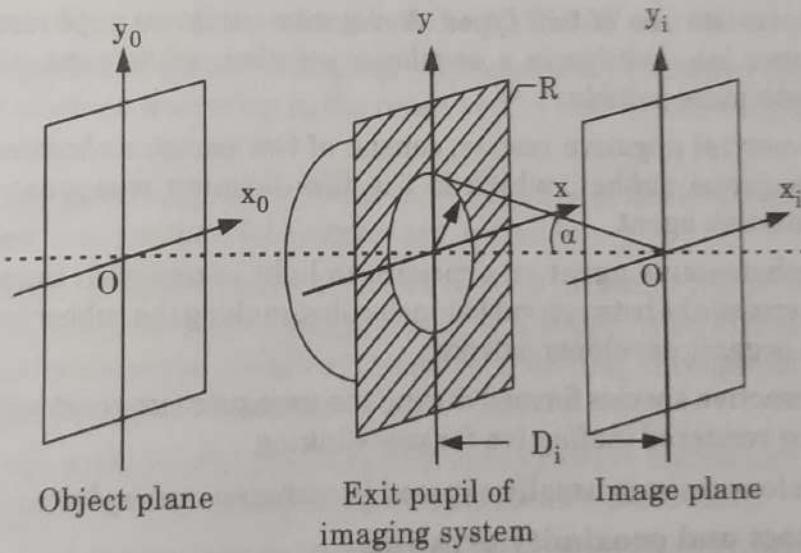

Fig. 3.2.2.
12. We define a pupil function $P(x, y)$ to represent the transmission of the round exit pupil, or hole, shown in Fig. 3.2.2. For points (x, y) within the pupil, $P = 1$; for points outside, $P = 0$. The simplest object is a point source at $x_o, y_o = 0$.